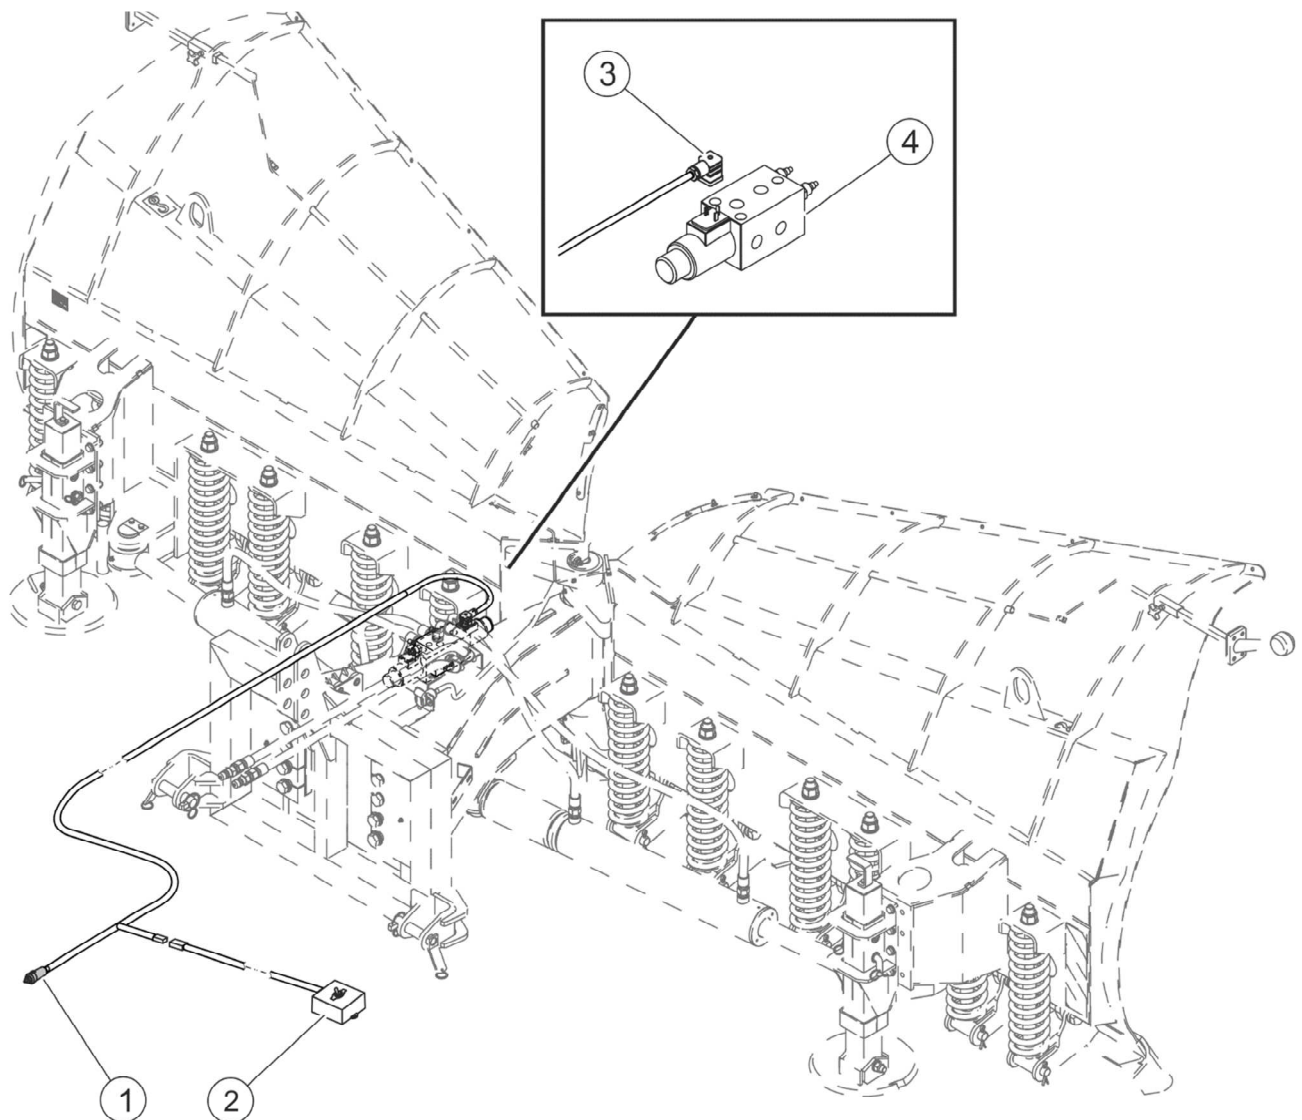
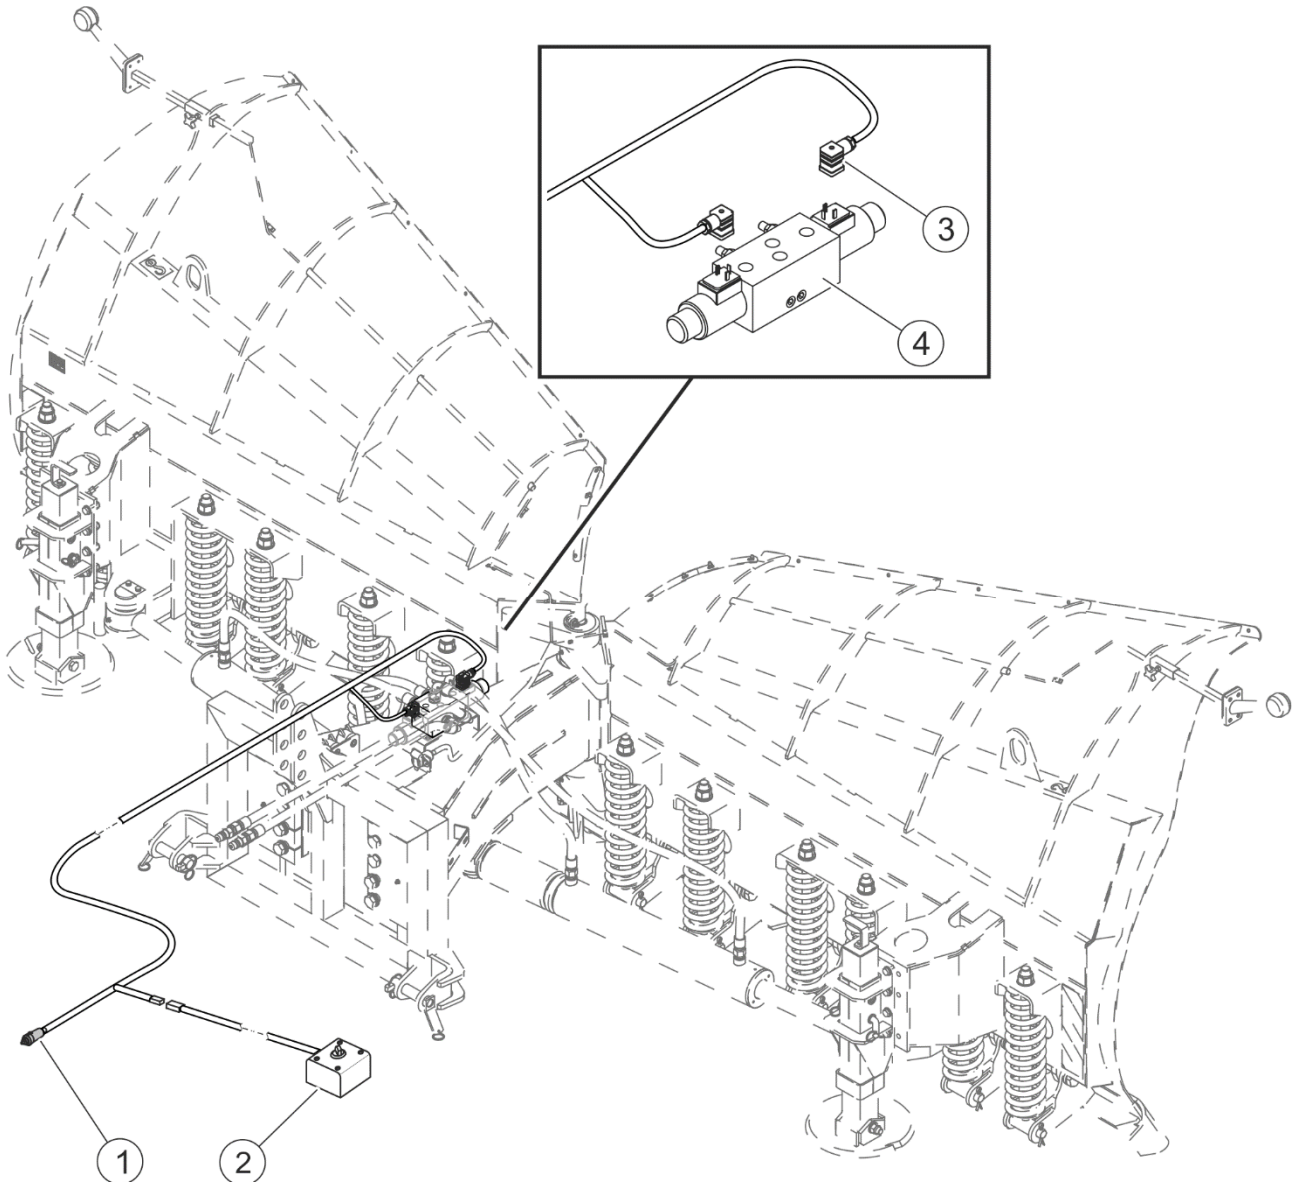

FIGURE 3.5 Design of solenoid valve electrical control system (independent control)
FIGURE 3.6 Design of solenoid valve electrical control system (independent-simultaneous control)
(1) - cigarette lighter plug; (2) - switch; (3) - solenoid valve plug; (3) - solenoid valve;
The electrical system (FIGURE 3.5, FIGURE 3.6) is used for controlling the hydraulic solenoid valve (4) and is supplied using 12V or 24 V cigarette lighter socket (depending on version) from the carrying vehicle's electrical system.